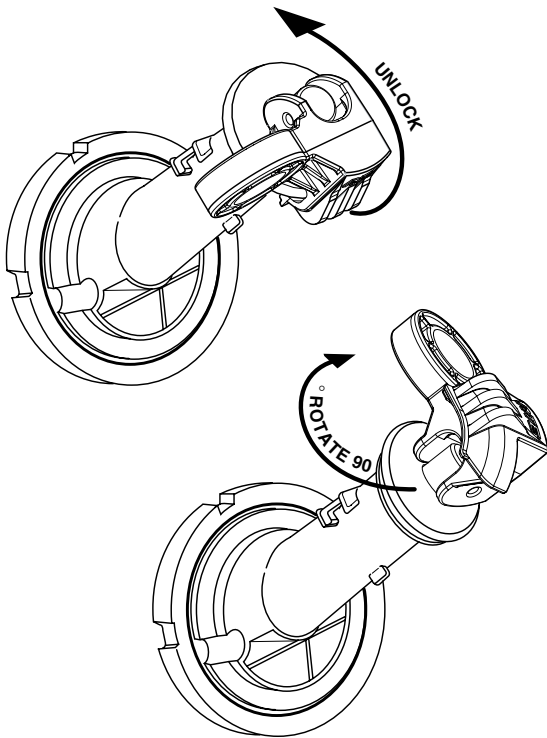

Figure 2. Unlock and turn fuse holder 90° in the Bay-O-Net housing.
- Turn fuse holder 90° in the Bay-O-Net housing to break the seal between the seal gasket and the Bay-O-Net housing. (See Figure 2.)